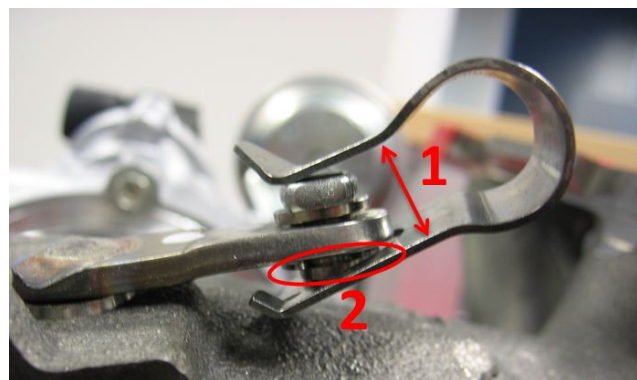

Figure 4. (1) Maximum opening of clip, (2) Position of original circlip
- The spring clip must not be overstretched. The maximum opening of the spring clip is 14 mm (Figure 4, 1).